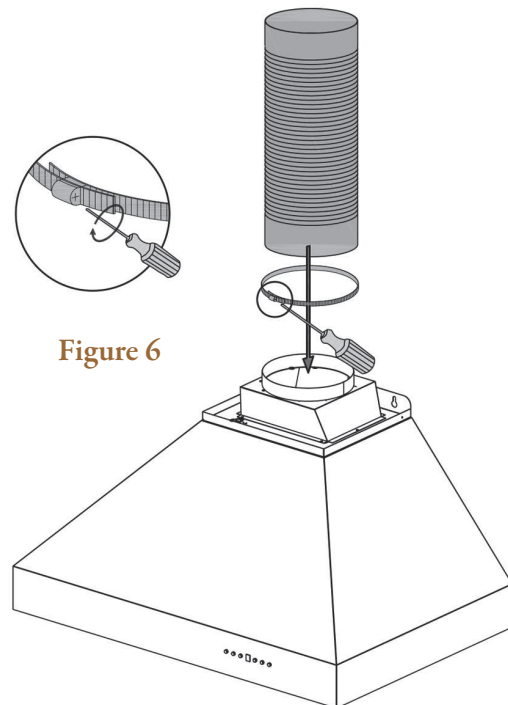

Figure 6
- 7 Connect the ducting to the transition piece using ring to hold into place. Attach ducting to the range hood. (Figure 6)
Connect the ducting to the transition piece using ring to hold into place. (Figure 6)